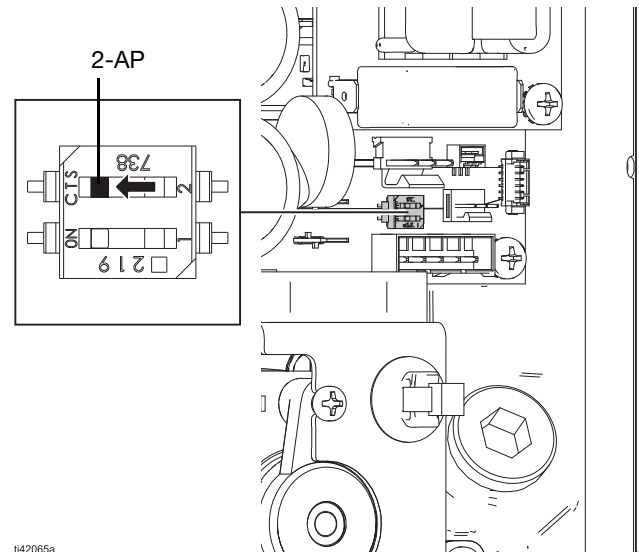

FIG. 14: Auto-Prime Switch
3. Locate the control mode switch (1-CM). See FIG. 14.
3. Locate the auto-prime switch (2-AP). See FIG. 14 or **Electrical Schematics** in the motor manual.